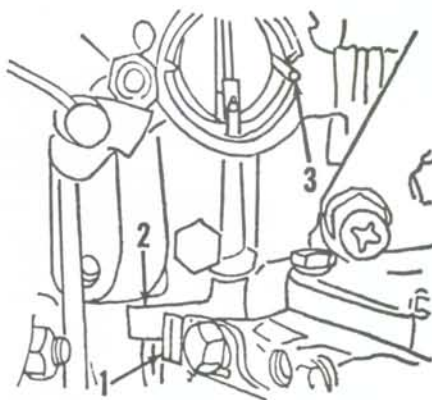

Fig. M7-13—Reverse throttle pickup adjustment used on Merc 800.
On Merc 800 direct reversing motors refer to Fig. M7-13. The reverse pickup lever (1) should be moved to the end of slot away from pickup finger (2) and the retaining screw tightened and safety wired. If correctly adjusted, this lever should not be moved. Move the speed control lever toward "Fast" (reverse) direction until distributor contacts the maximum (reverse) stop. Loosen the screw which clamps the reverse pickup lever to throttle shaft. Manually open the carburetor throttle until a No. 40 (0.098) drill bit can be inserted between throttle valve and port side of carburetor barrel as shown at (3). With drill bit holding throttle valve open, move the pickup finger (2) on throttle shaft until it contacts pickup stop (1) and tighten the clamping screw. Remove the drill.